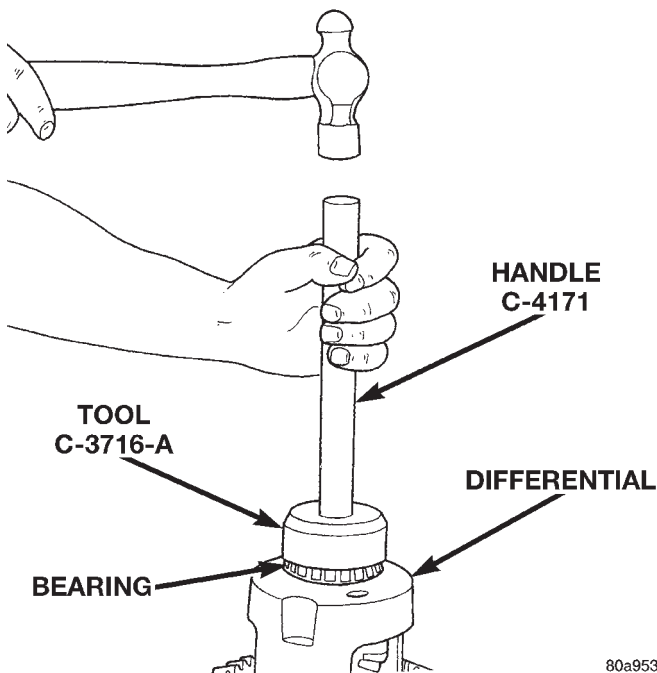

Fig. 23 Install Differential Side Bearings
- (1) Using tool C-3716-A with handle C-4171, install differential side bearings (Fig. 23).
- (2) Install differential in axle housing.